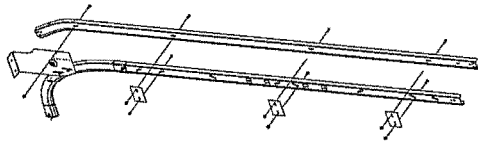

FIGURE 6
- Secure the upper horizontal track to the horizontal track with scab brackets using track bolts and nuts through the slot on the upper horizontal track and the keyhole slots on the horizontal track and the holes on the scab bracket. (See Figure 6)